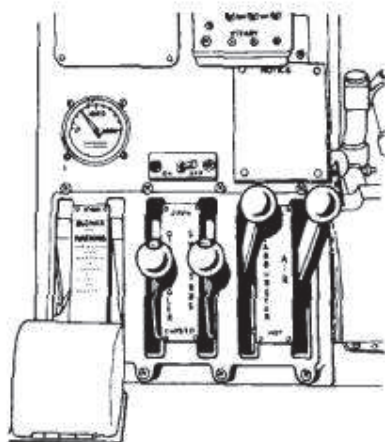

Figure 46—Oil Cooler Shutters Control Levers
(19) If engines have been idle for more than 30 minutes, have same pulled through by hand 16 blades in the direction of normal engine rotation.
(20) Have outside power source or auxiliary power plant connected to outlet in left nacelle.
(21) Check that blowers are in "LOW" with safety cover in place.
(22) Adjust oil cooler shutters to suit outside temperature. (See figure 46.)
(23) Set carburetor air control levers to "COLD" position. (See figure 46.)
- d. Set oil cooler shutters as required after checking oil temperature. (See figure 46.)